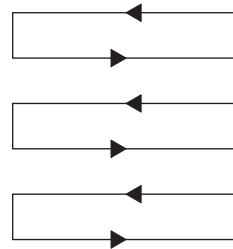

Fig. 19
4. Mow in slight overlapping rows. The most effective pattern for mowing lawns is straight lines along one of the sides. This will keep the rows even and ensures that all the lawn is cut without missing any spots (Fig. 19).